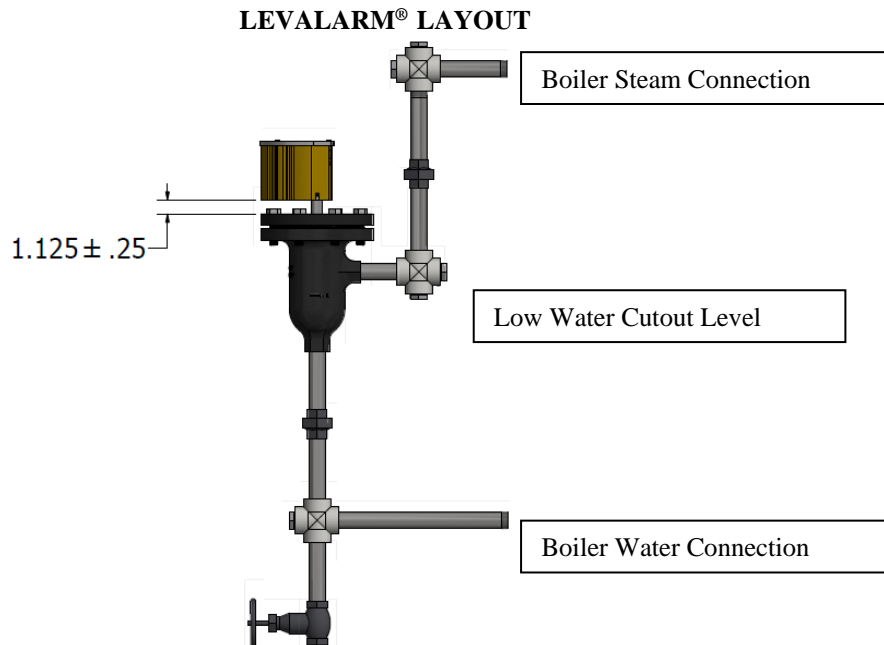

FIGURE 2
should be routed to a point of safe discharge to facilitate blowdowns. Below in Figure 2 is a typical arrangement for the installation of the Levalarm®. Verify that installation conforms to local and national Codes and Standards. After the piping has been installed to the body of the Levalarm®, the switch should be connected by following this procedure:
4. Ensure the base of the switch housing is mounted 1.125" above the top flange, as shown below in Figure 2. Check all connections are tight and correct, replace the switch cover, as the unit is now ready to be put in operation.